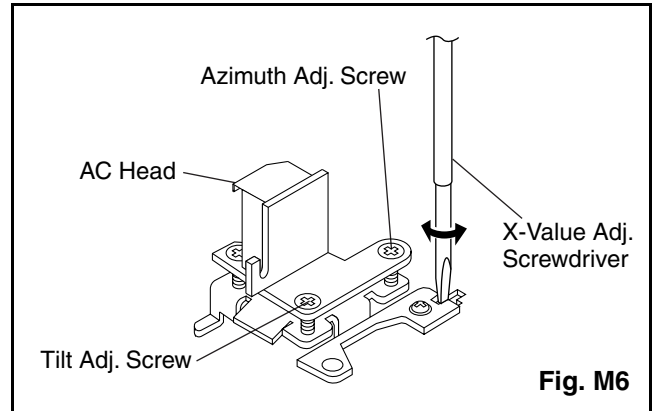

Fig. M6
4. If creasing or snaking is apparent, adjust the Tilt Adj. Screw of the AC Head. (Fig. M6)
4. Use the X-Value Adj. Screwdriver so that the PB FM signal at TP402 (ENV.) is maximum. (Fig. M6)
3. Adjust Azimuth Adj. Screw so that the output level on the AC Voltmeter or the waveform on the oscilloscope is at maximum. (Fig. M6)